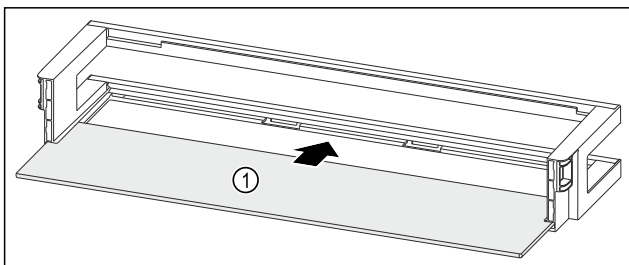

Fig. 200 Door rack with shelf
- ▶ Push the shelf Fig. 200 (1) into the side recesses.